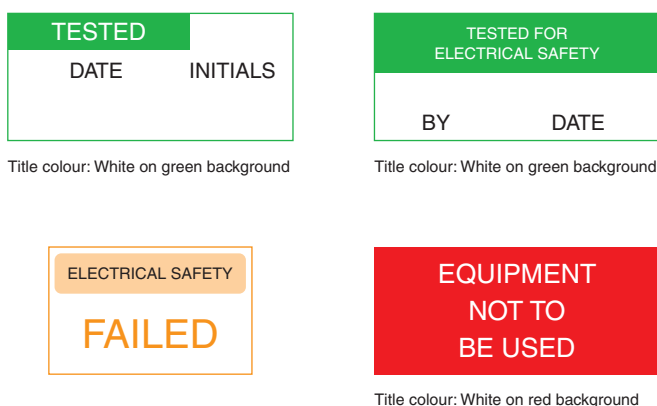

Figure 1.32 Typical PAT Test labels.
- label tested equipment with the due date for its next inspection and test as shown in Fig. 1.32. If it is out of date, don't use it.